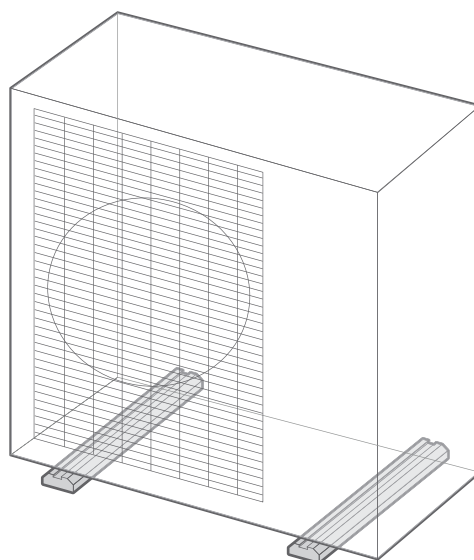

fig. 15 - Rubber floor mounts (optional)
- The appliance must be fully accessible for installation works and future maintenance works (*fig. 15, page 17*).